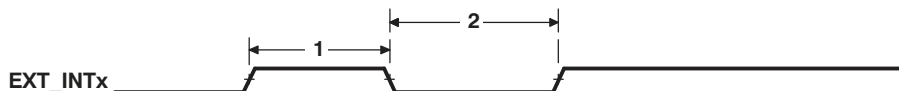

Figure 6-12. GPIO External Interrupt Timing
**Table 6-15. Timing Requirements for External Interrupts/EDMA Events(1)** (see Figure 6-12)